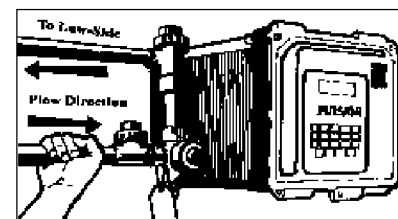

FIGURE 2
4. Direction of flow should be from the bottom to the top of the flow assembly (see Fig. 2).